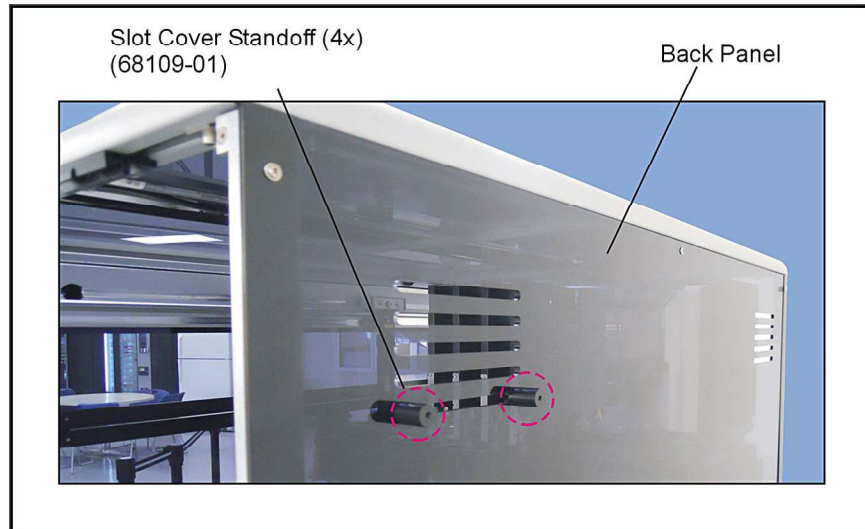

Figure 2-20: Slot cover standoffs
10. Install two slot cover standoffs (68109-01) on the bottom slot of each of the two ventilation areas of the back panel (Figure 2-20).